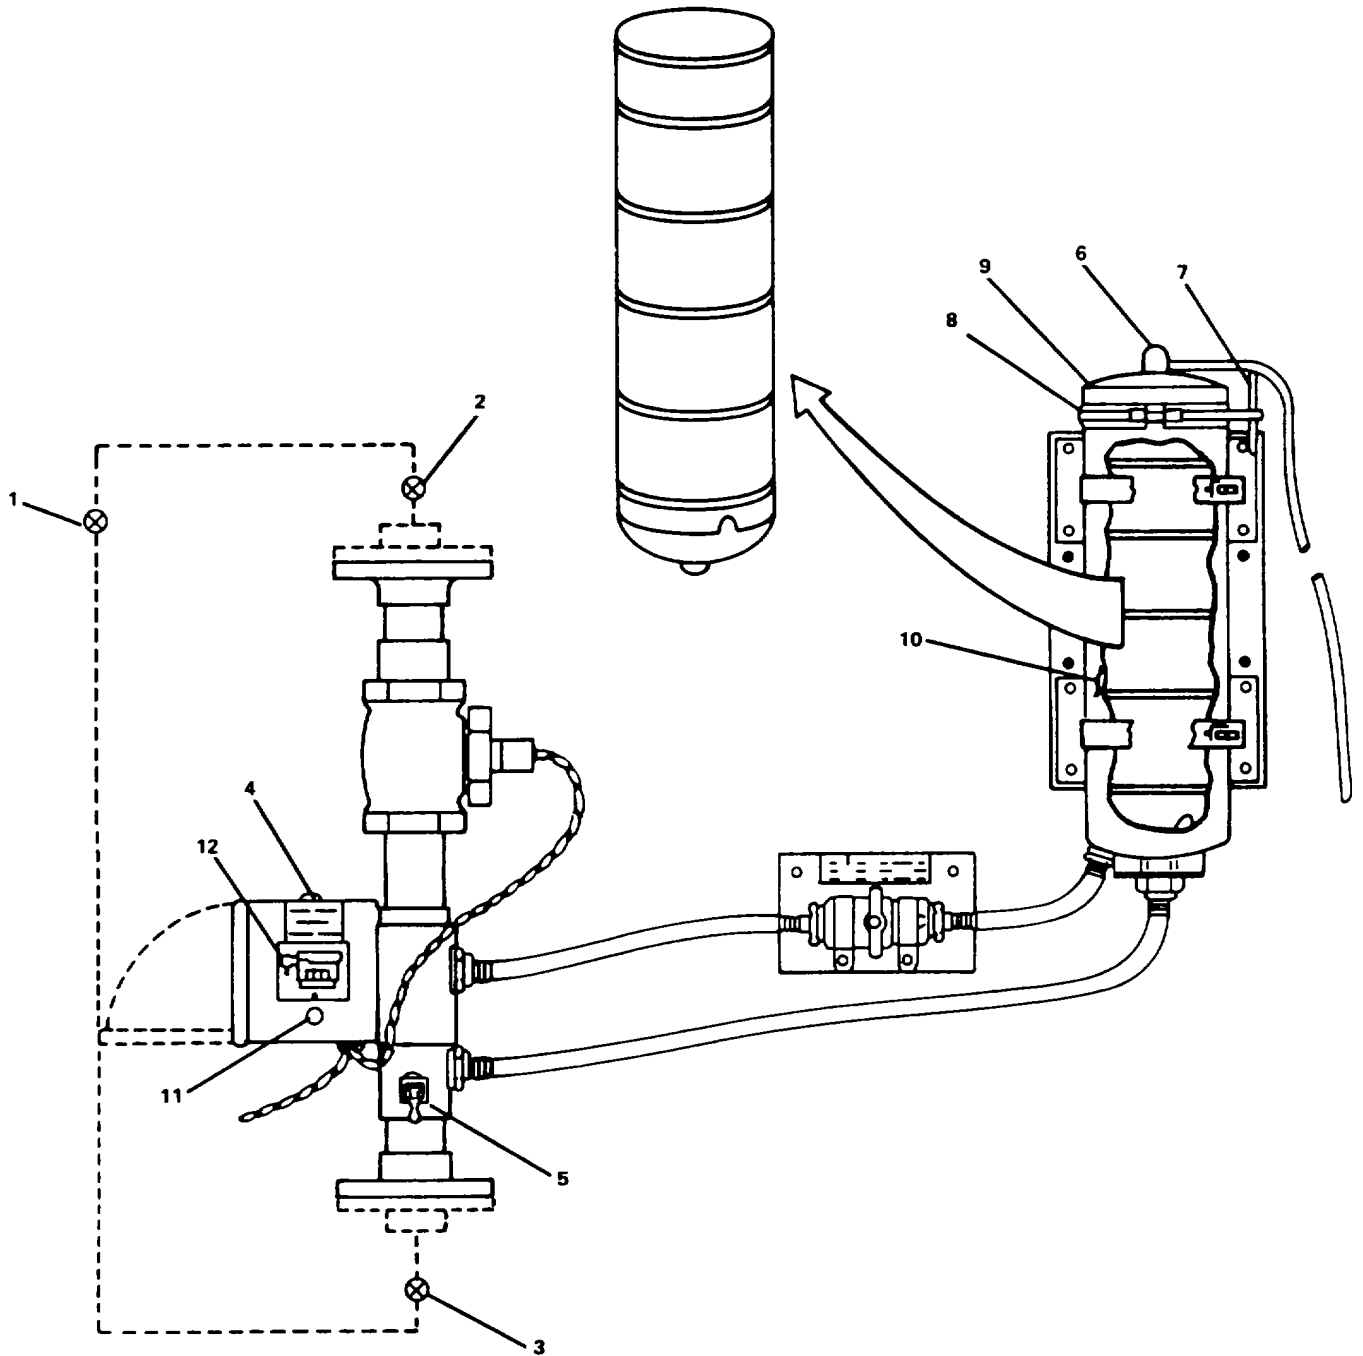

Figure 2-108. Remove Bromide Feeder Cartridge.
- a. Open PW-36, BYPASS-BROMINATOR valve (1, Figure 2-108).
- b. Close PW-37, BROMINATOR INLET valve (2) and PW-38, BROMINATOR OUTLET valve (3). Tag valves "Out of Service Do Not Operate. "
- g. Close electrical box cover (13). Secure with screws.
- a. Insert cartridge (10, Figure 2-108) in bromine vessel and screw in finger tight.
- b. Install gasket (9) and feeder top assembly (6).
- c. Install V-band assembly (8) and tighten T-nut (7).
- e. Verify CARTRIDGE CHANGE indicator (11) is not lit.
- a. Depress air-bleeder button on feeder top assembly (6, Figure 2-108) to bleed all air out of vessel.
- c. Check that CARTRIDGE CHANGE indicator light (11) is OFF and cartridge change indicator meter (12) is operating.
- d. Draw a sample of water from the test tap (4).